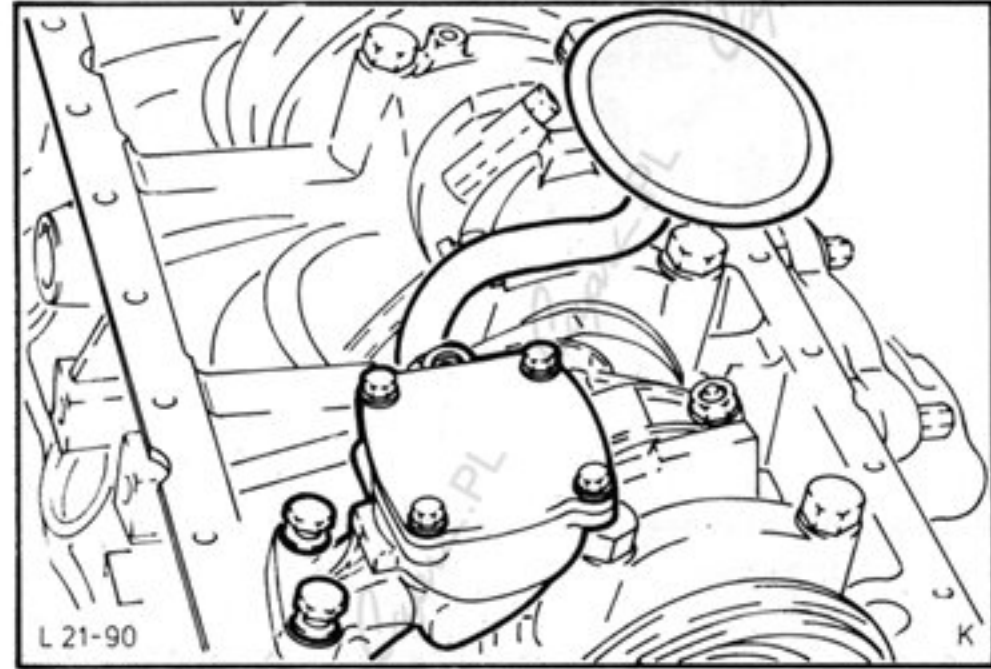

Fig.36. Remove oil pump and suction pipe.
24. Remove oil pump and suction pipe (2 bolts), Fig.36, and withdraw drive shaft.